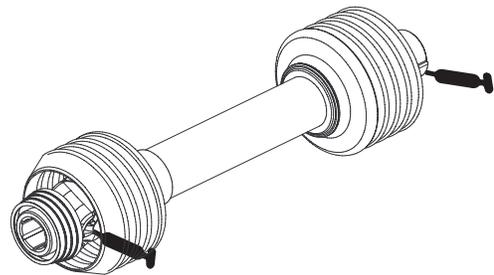

Figure 11
Under normal conditions, grease the (2) drive shaft fittings after every 100 hours of use (Fig. 11). Use a No. 2 Lithium-based grease.